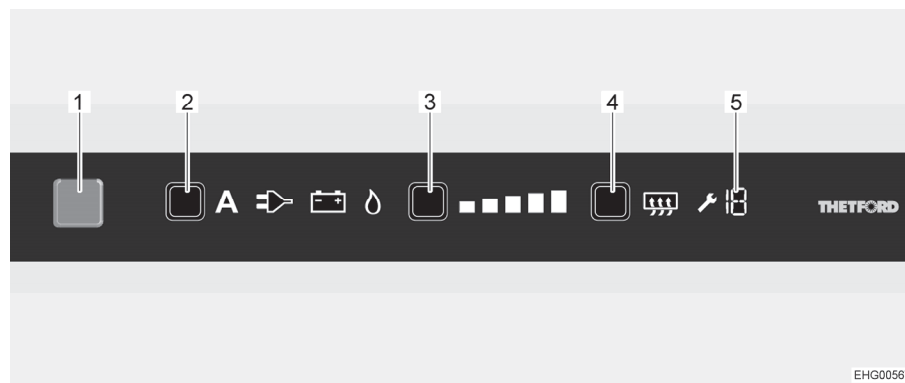

Fig. 128 Operating controls
When turned on the refrigerator automatically selects the thermostat position selected last. This setting can be adjusted manually by using the cooling level button (Fig. 128,3). The illuminated bars of the cooling level indicator show the selected thermostat position. The refrigerating temperature for all three types of energy is set with the cooling level button. It takes a few hours till the refrigerator reaches its normal operating temperature. When changing over the operating mode the thermostat setting will be maintained. The refrigerating temperature is retained regardless of the type of energy being used.
- Press and hold the On/Off button (Fig. 128,1) for 1 second. Button lights up blue. To save energy, after approximately 10 seconds the display is dimmed.
- Press the power selection button (Fig. 128,2) repeatedly until the desired energy source has been selected.
- Press the cooling level button (Fig. 128,3) repeatedly until the desired cooling level has been selected. The current cooling level is indicated by illuminated bars.
- Press and hold the On/Off button (Fig. 128,1) for about 2 seconds. All lights go out. Refrigerator is switched off.